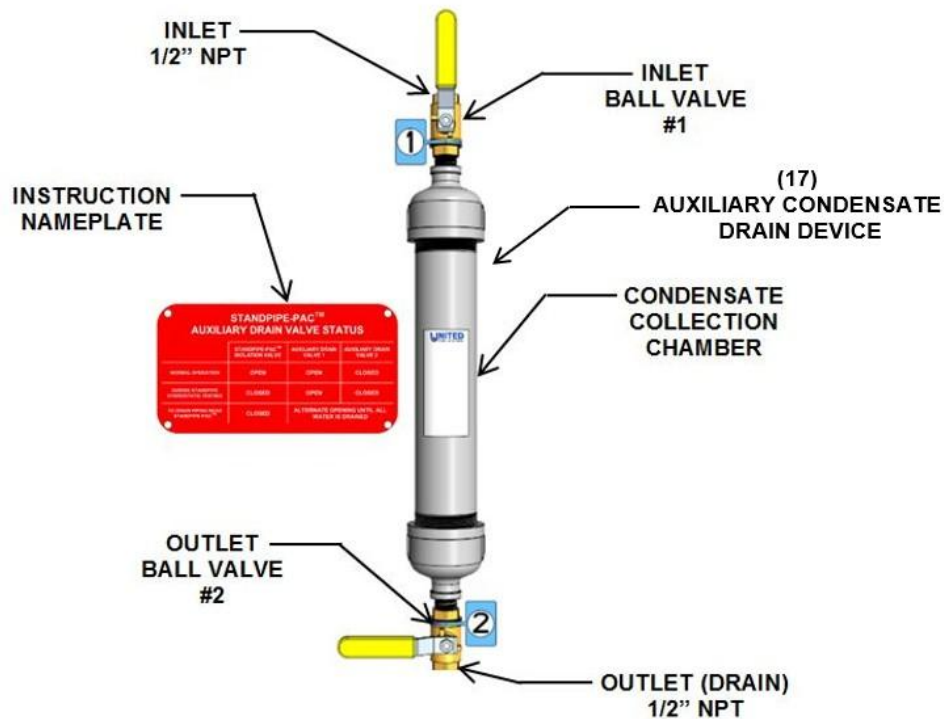

Figure 4 – Auxiliary Condensate Drain Device
- (17) Auxiliary condensate drain device. This device permits manual draining of water in the piping near the **STANDPIPE-PAC™** unit, to help prevent water entry into the unit and pipe blockage without removing all air from the standpipe. (Figure 4)
6. See Figure 4. Attach Instruction Nameplate to wall in close proximity to device.